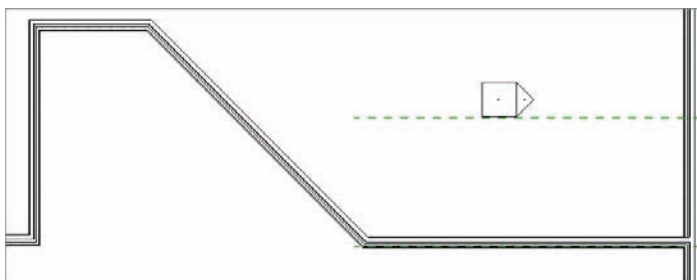

FIGURE 2.16 The walls are automatically joined when you pull the end of one into another.
4. Pick the left blue grip, and drag this wall's end to the left until you hit the bottom corner of the diagonal wall. The two walls join together (see Figure 2.16).